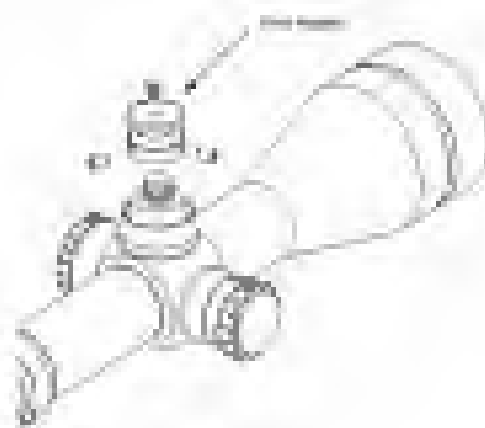

Figure 2-6
7. Place the BGRS knee adapter over the elevation point. Apply a slight downward pressure and tighten the three equally spaced set screws located on the outside of the adapter. Ensure that all set screws are seated below the outside diameter of the knob adapter and are tightened evenly. Use Loctite® if desired. Figure 2-6.